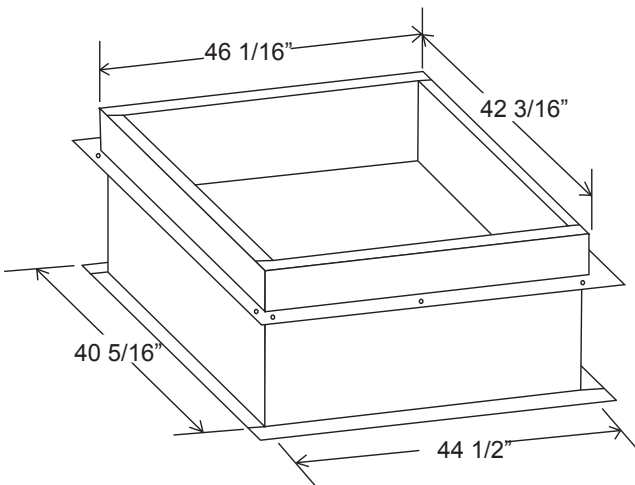

FIGURE 1
4. Assemble the roof curb. Bring together a curb side and a curb end. Insert the tabs in the curb end into the slots on the curb side. Press together until the pieces lock in place. It may be necessary to step on the top of the curb to lock the pieces in place. Figure 1.
5. Repeat for all four corners. If lifting the curb after assembly, hammer all corner tabs over to the side. Figure 1.